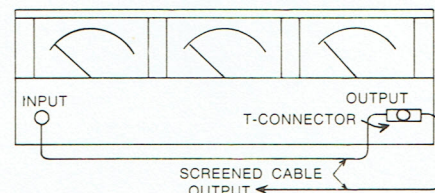

Fig. 4.
- Set LEVEL A switch (17) to OUTPUT.
- Use LEVEL CONTROL (16) (and VERNIER (15), if necessary) to obtain the output level required.
- Set oscillator function switch (8) to either SINGLE SWEEP, MAN. or EXT., as required.
- To monitor the frequency (output level above 10 mV only), use a BNC T-conductor and connect the OUTPUT to the INPUT with a short length of screened cable. See Fig. 4.